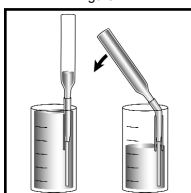

Figure 5
8. Place the VACUette between the vertical tip guides on the inside of the dilutor snapper cup and snap the ampoule tip. Fig. 5